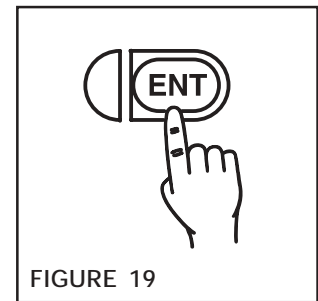

FIGURE 19
5. Press the **ENT**er Key to store the new value into memory (See Figure 19).